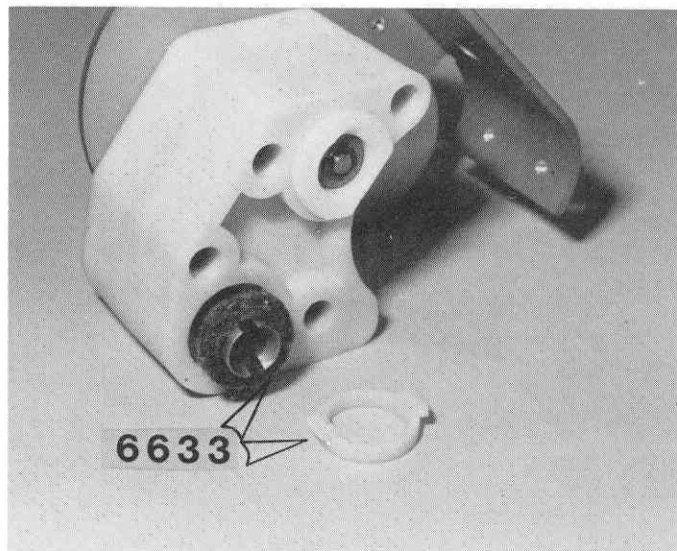

Fig. 95
□ **Fig. 95** Take the 2 #6633 felt seals out and slip them on the hubs, as shown.